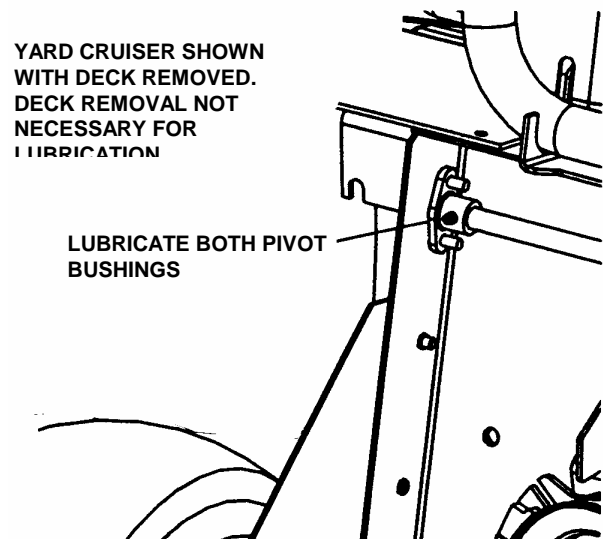

FIGURE 3.9
- Lubricate both pivot bushings with three shots general purpose grease from grease gun. See Figure 3.9